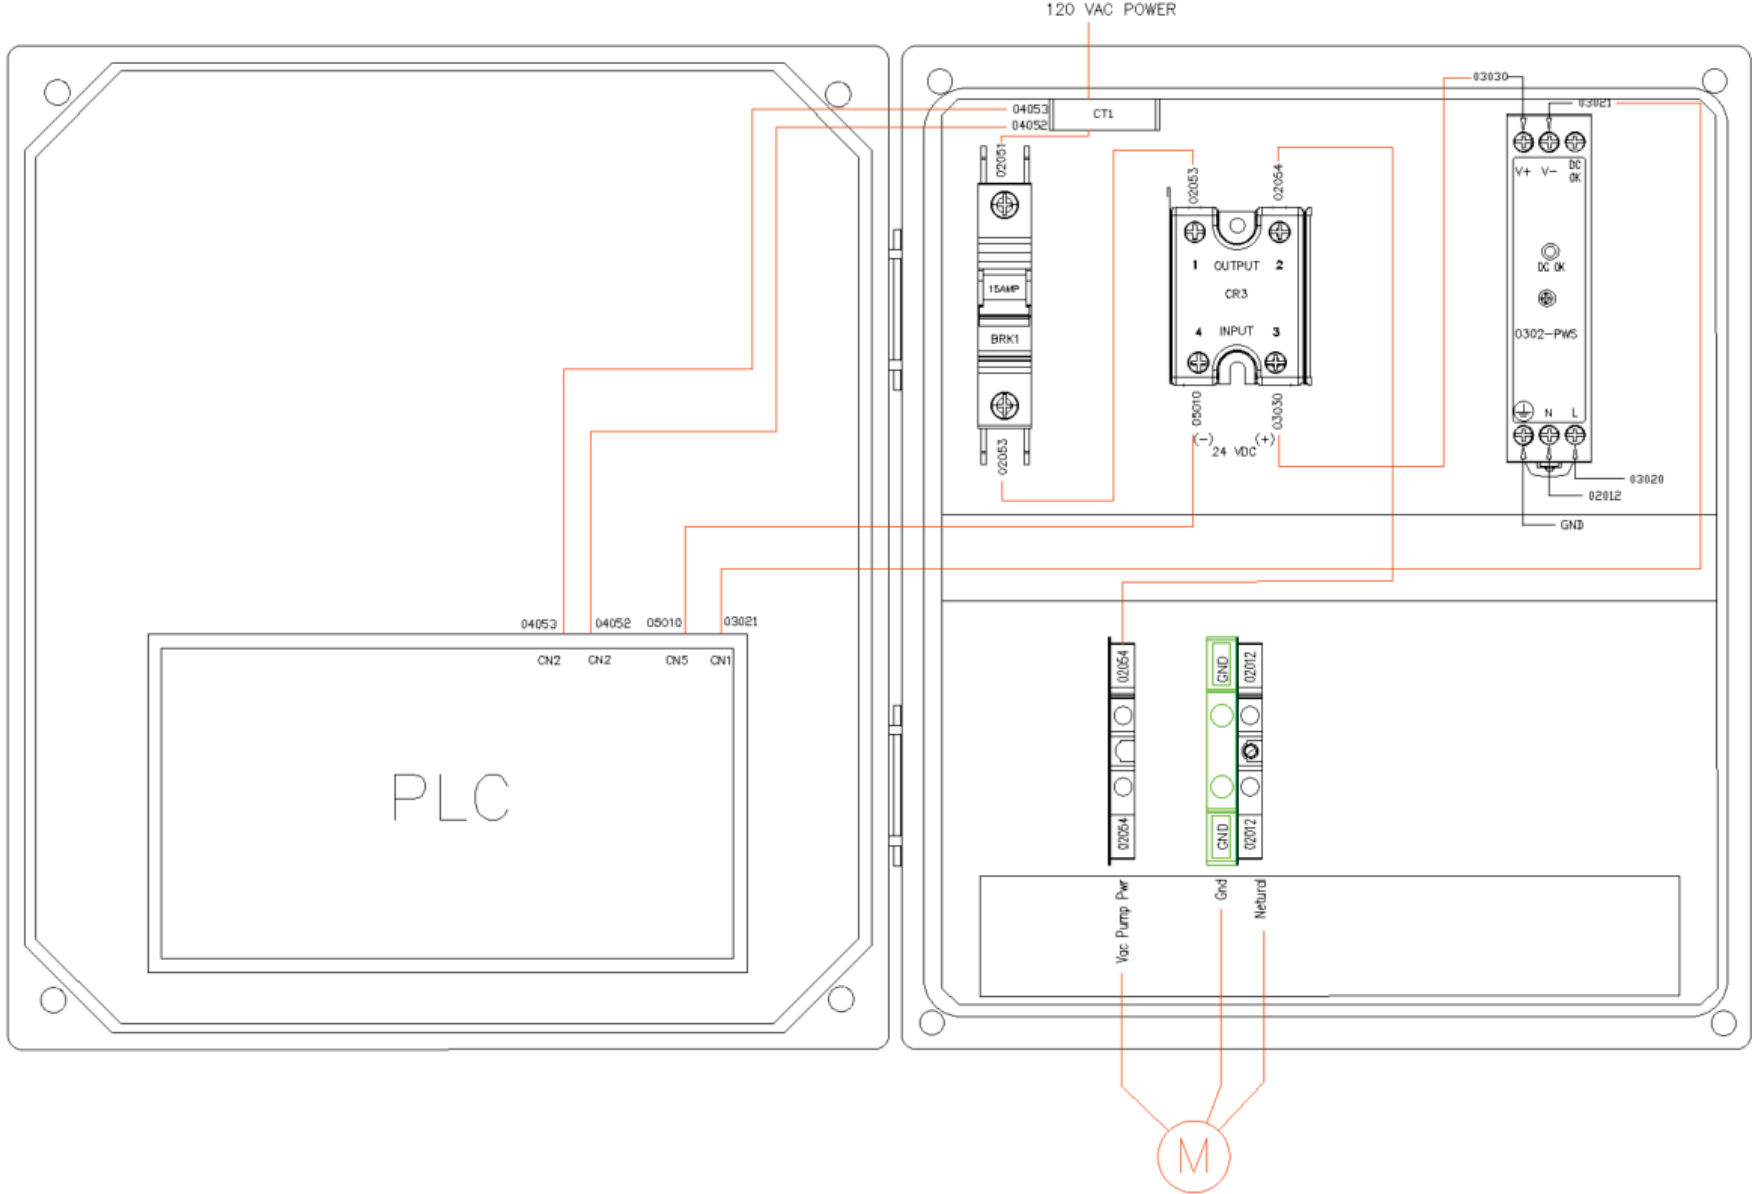

Figure 8-10: Vacuum Pump Circuit
4.	<p>Check the Vacuum Pump wiring circuit inside the VST Control Panel. See Figure 8-10.</p> <ul style="list-style-type: none"> Physically check the Vacuum Pump wiring connections at the Vacuum Pump junction box and at the VST Control Panel to make sure the connections are tight and wired correctly.